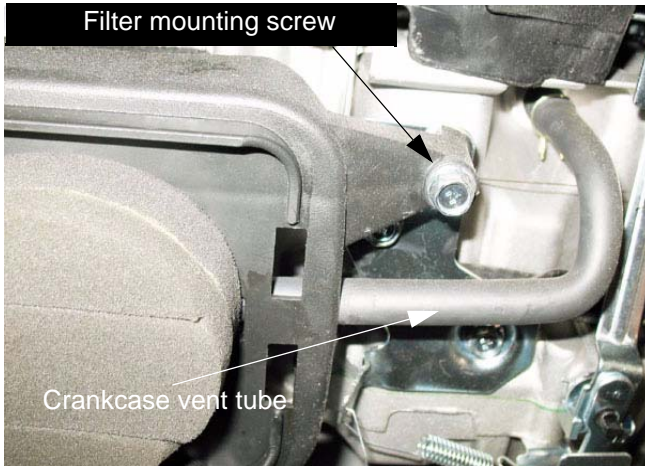

Figure 3.7
2. Remove the screw that holds the air filter housing to the control bracket. See Figure 3.7.
3. Remove the two nuts that hold the air filter body to the carburetor mounting studs. See Figure 3.7.